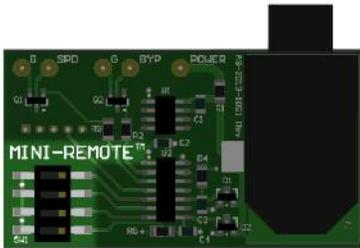

Figure 1
The Mini-Remote has eleven (11) operating modes, six for halfmoon and 'legacy' pedals, and the rest for use with a momentary foot pedal. The mode is selected by a DIP switch found just below the words MINI-REMOTE™ on the board (Figure 1).